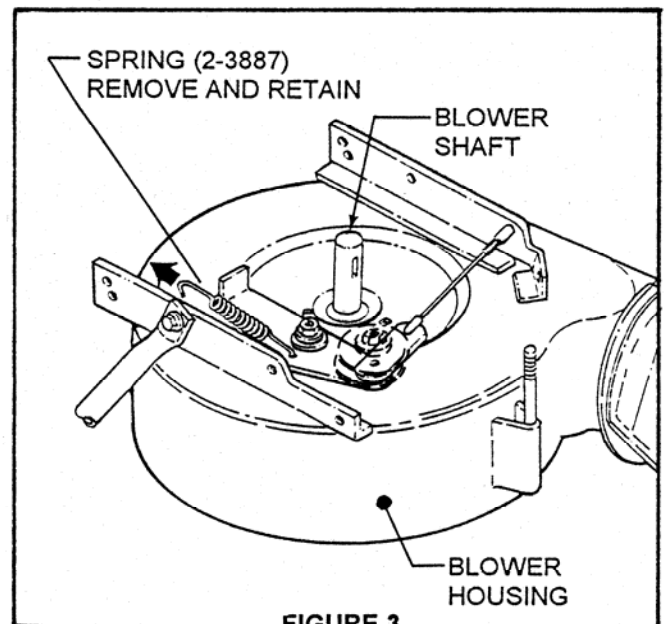
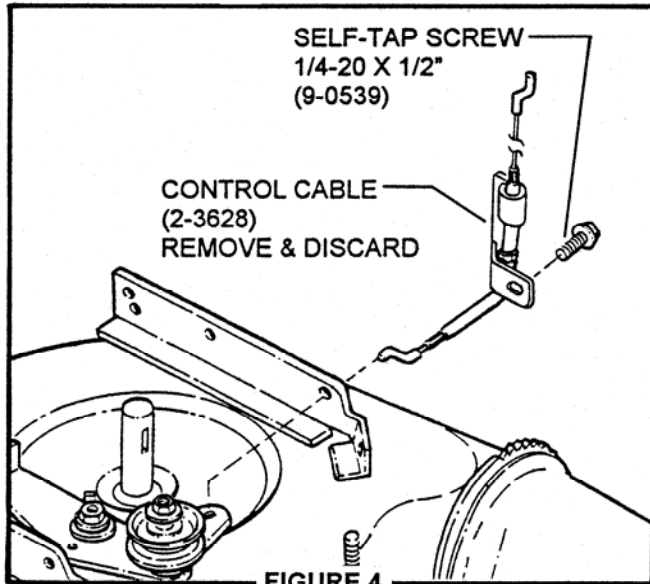

**FIGURE 1.**
**FIGURE 2.**
**STEP 1:** Place the frame reinforcement weldment (use the one provided in this kit) on the back of the tractor frame as shown in Figure 1. Drill a 3/8" hole at the *bottom* of each slot. Then, attach to the inside of the frame using the hardware provided. See Figure 2.